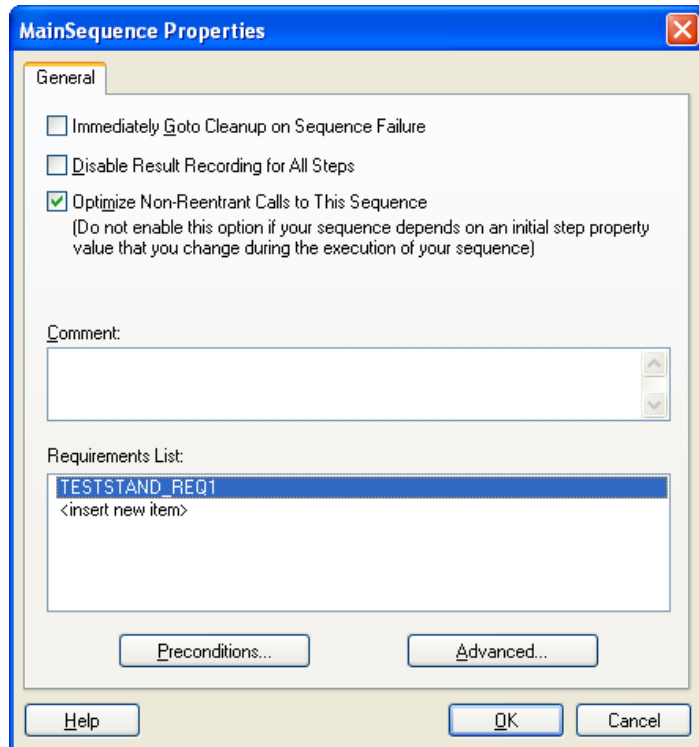

Figure 7-2. TestStand Sequence Properties Dialog Box
MainSequence sequence, the Sequence Properties dialog box is named MainSequence Properties, as shown in Figure 7-2.
5. Select **<insert new item>** in the Requirements List and paste the text from the clipboard using **<Ctrl-V>**. TestStand adds TESTSTAND_REQ1 to the list as shown in Figure 7-2.